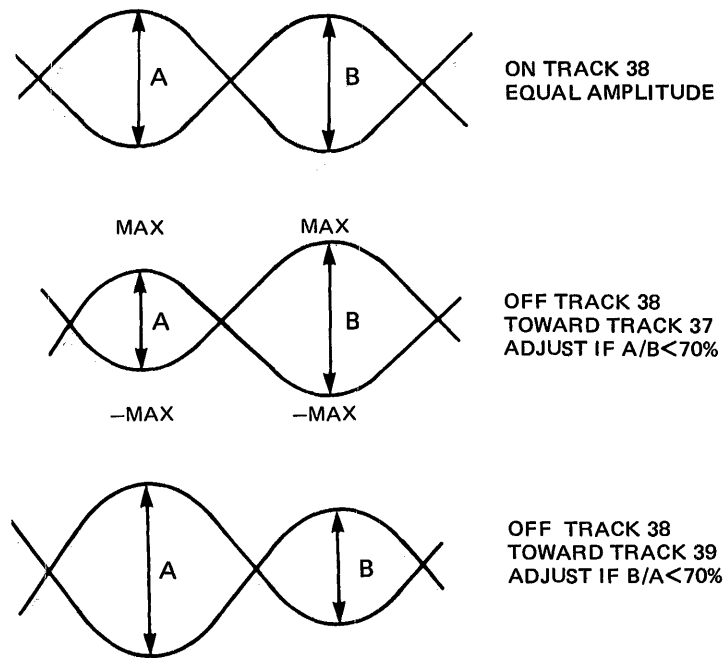

Figure 5-2 Head Radial Alignment Waveform
- c. Check the waveform (see Figure 5-2). The two lobes that are displayed should be within 70% of each other in amplitude.